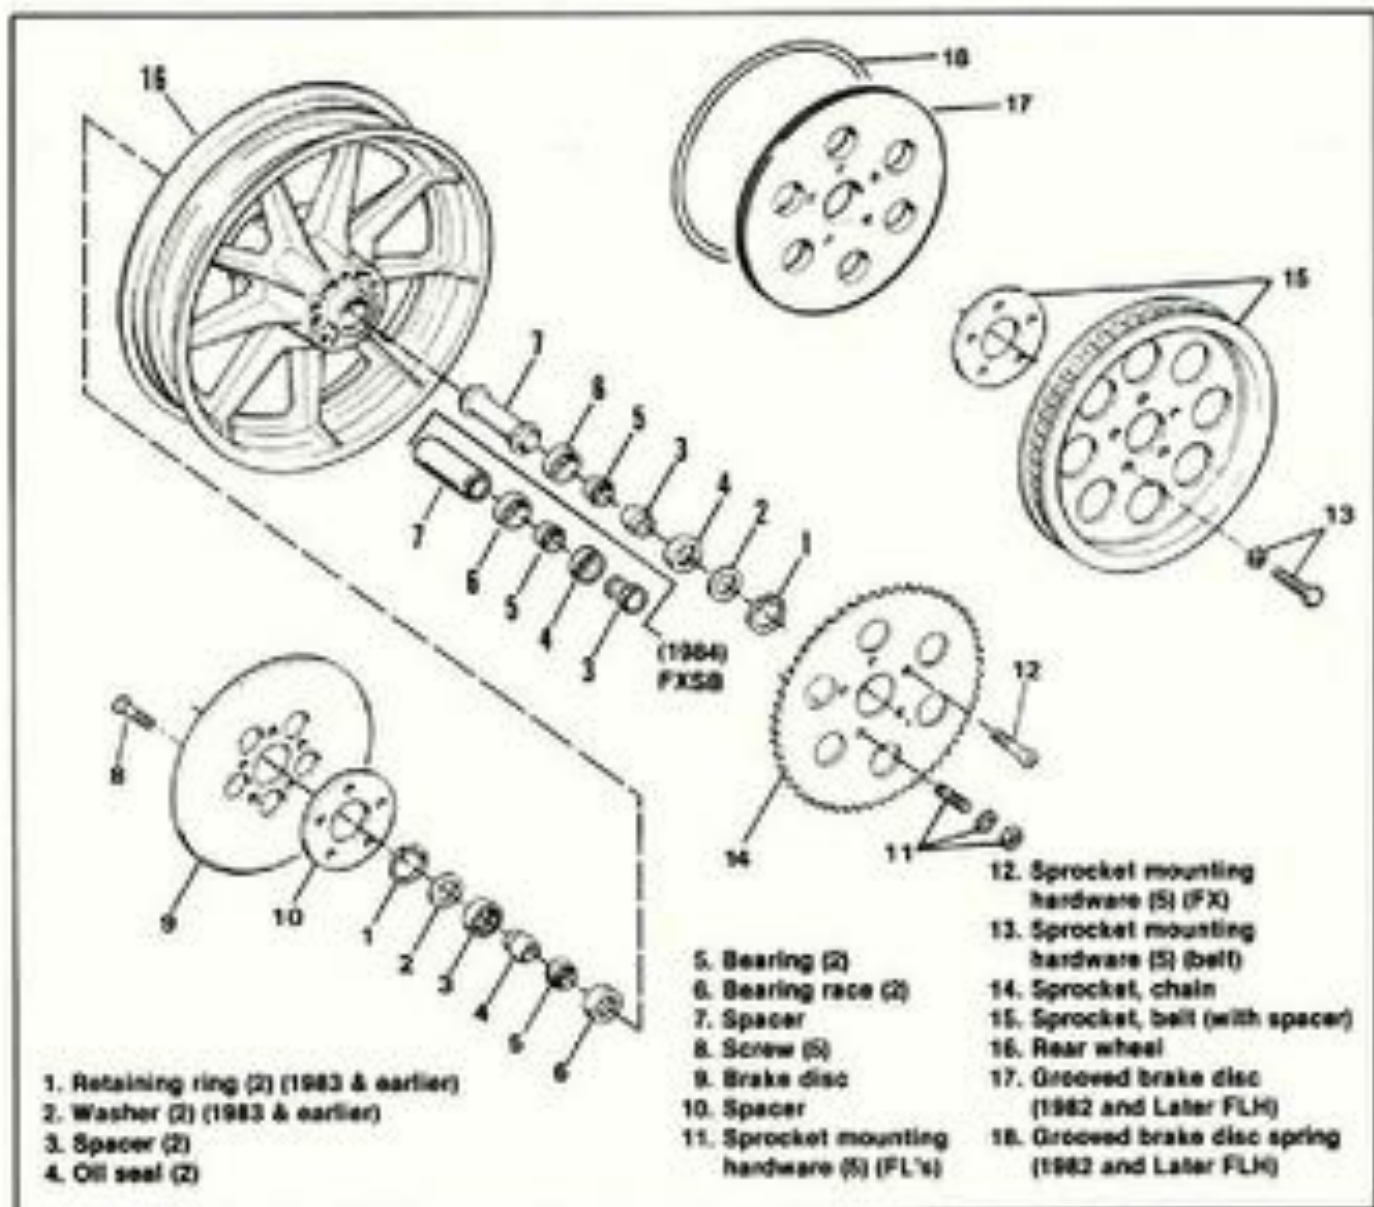

Figure 2-13. Cast Rear Wheel — All Models
- Remove the bolt (14), nut (15) and sprocket (16).
- If it is necessary to remove the hub (8) from the wheel, unscrew all the spoke nipples and remove the rim and spokes from the hub.
**CAST WHEEL (Figure 2-13)**
- Remove the retaining rings (1), washers (2), spacers (3), oil seals (4), bearings (5) and spacer (7).
#### CAST WHEEL — ALL MODELS EXCEPT 1984 FXSB AND 1983 FXDG (Figure 2-13)
#### CAST WHEEL — 1984 FXSB AND 1983 FXDG (Figure 2-13)
6. When all 20 inner spokes are installed, insert a spoke into an outside spoke hole on the same flange side. See Figure 2-13 and 2-14.